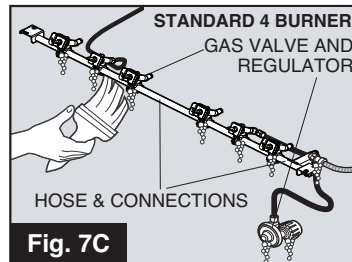
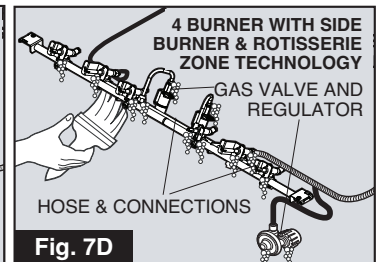

Fig. 7C
Fig. 7D
- All hose connections (Figure 7C) including side burner and Rotisserie tubing, if equipped (Figure 7D)
- All valve connections (Figure 7C & D)
- All hose connections (Figure 7C)
- All valve connections (Figure 7C & 7D)